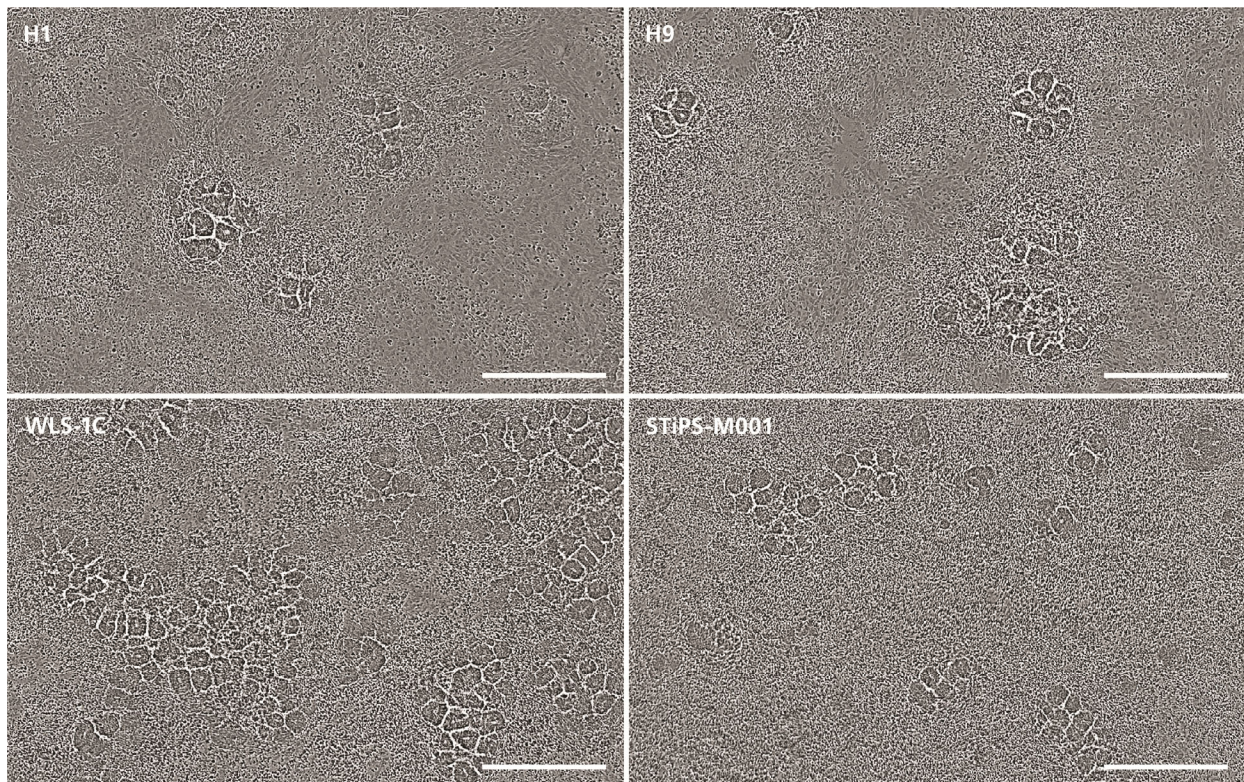
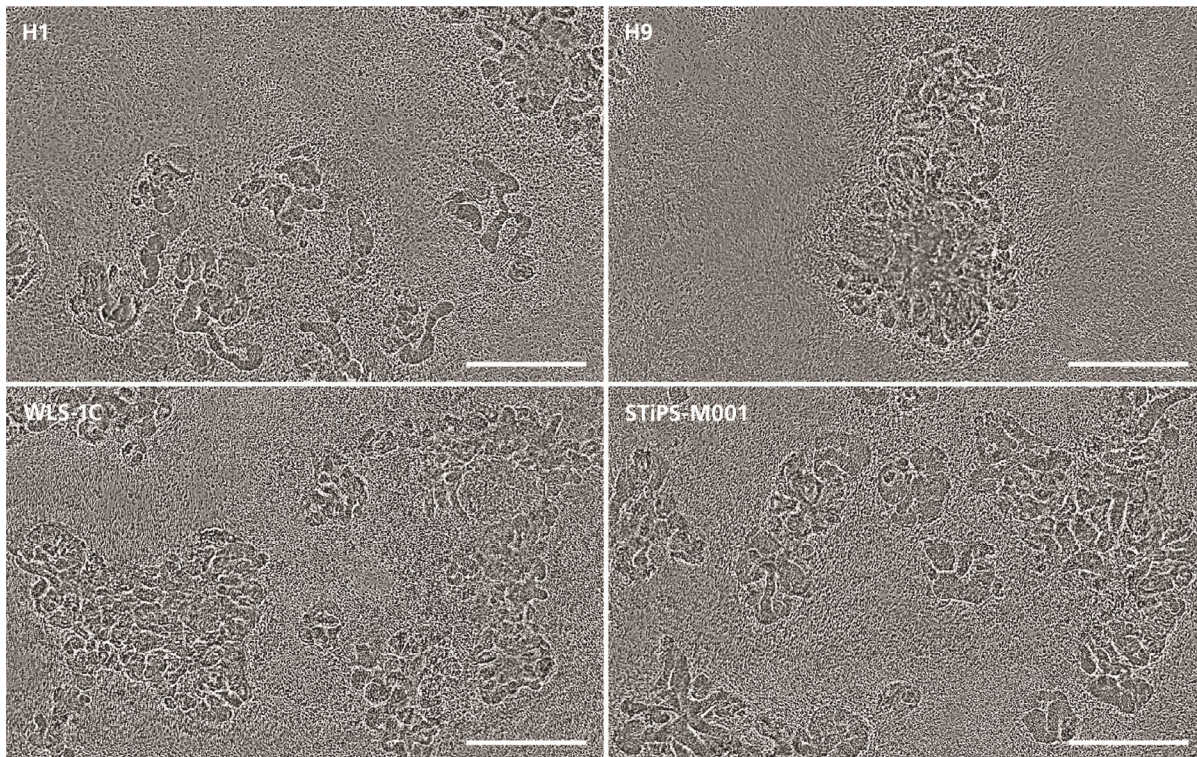

Figure 5. Early Tubular Kidney Organoid Structures on Day 8
Figure 6. Late Tubular Kidney Organoids on Day 15
Note: We recommend performing full medium changes on Monday, Wednesday, and Friday each week. At Day 8 - 10, if no tubular kidney organoid structures are visible (see Figure 5) the cultures should be restarted, as no kidney organoids will develop.
6. See Figure 5 and Figure 6 for representative images from Day 8 and Day 15, respectively. On Day 18, tubular kidney organoids will be fully established and can be used in standard assays or harvested for flow cytometry. Kidney organoids can be cultured for up to 1 week beyond Day 18, with full medium changes every 2 - 3 days; however, no further development will occur.